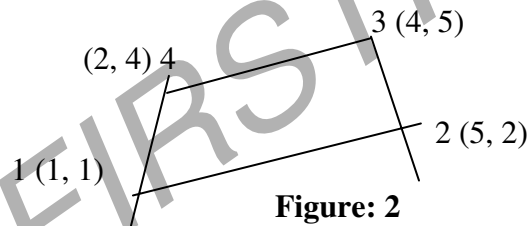

Figure: 2
3. a) Establish the Jacobian operator $[J]$ of the two dimensional element shown in Figure: 2 also find the Jacobian Determinant.